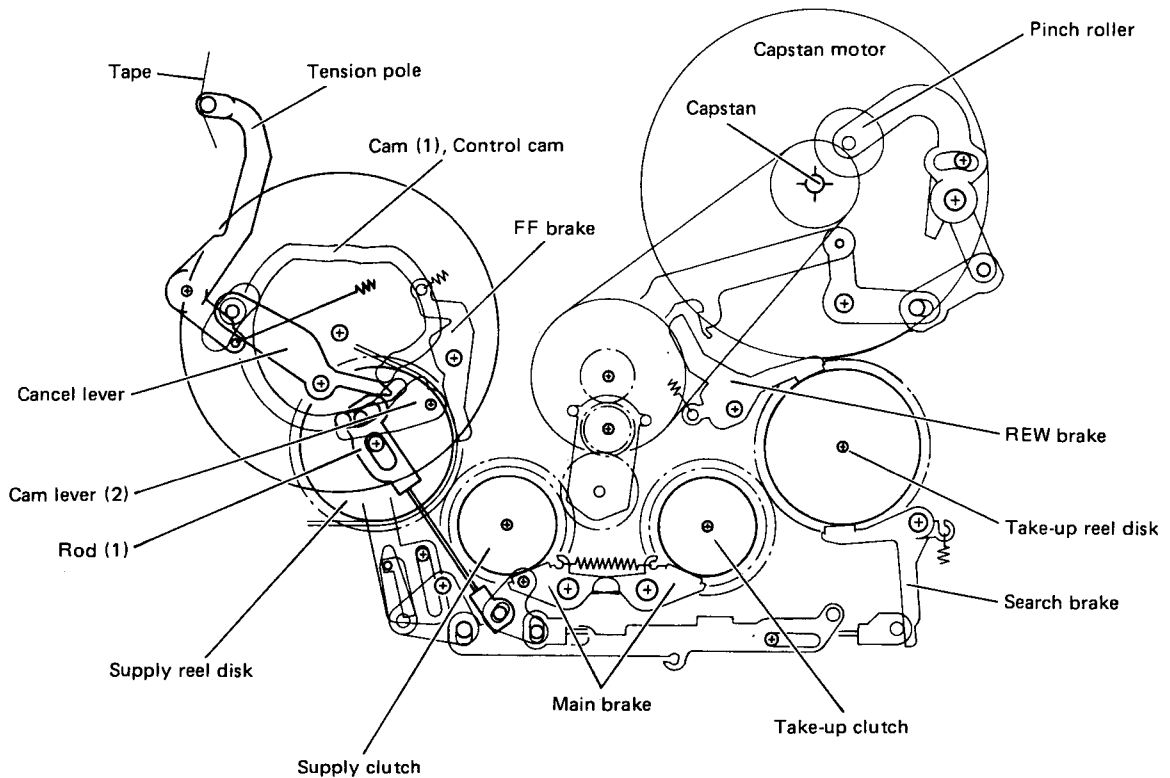

Fig. 7-5-7 Pause mode
2. The search brake slightly contacts the reel disk. (Fig. 7-5-7)
3. The tension pole decreases tension to tape by function of the cam (1). (Fig. 7-5-7)